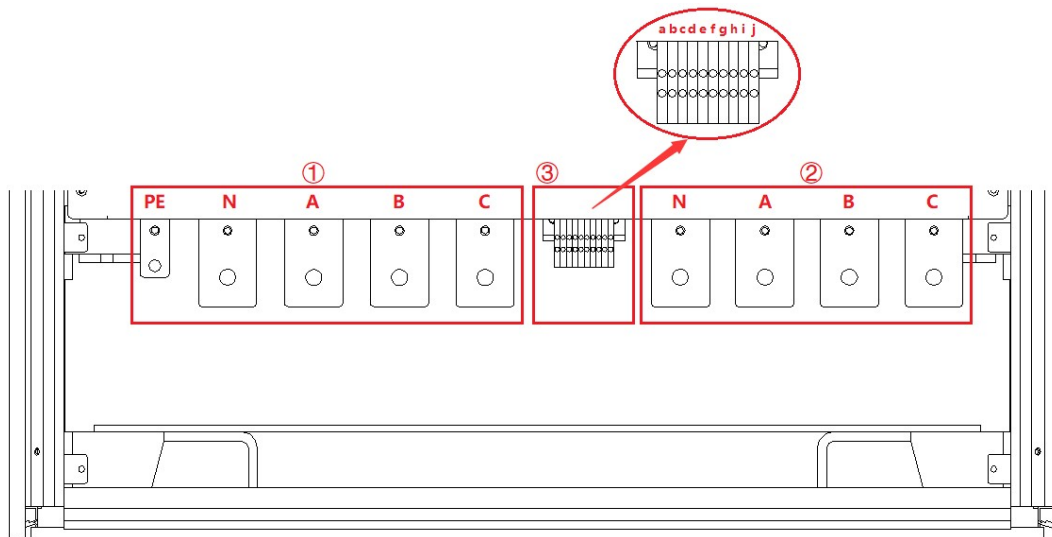

Figure 1-17
The External emergency stop interface is located at the internal wiring layer③: c, d (Figure 1-17).